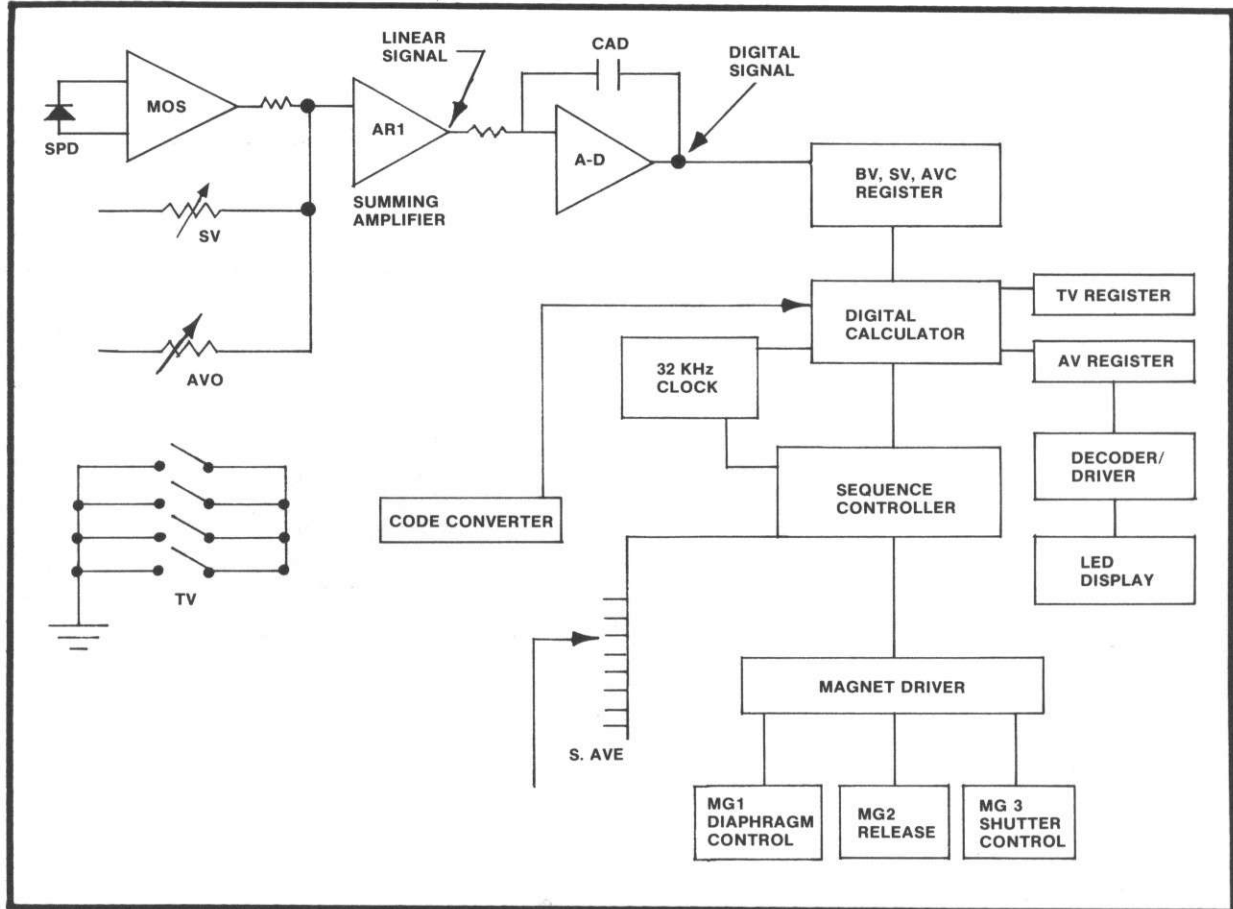

Figure 22
The block diagram, Fig. 22, shows the basic operation. A MOS amplifier serves as a log compressor, converting the SPD current to a voltage. The linear outputs of the MOS (BV), the film-speed resistor (SV), and the maximum-aperture resistor (AVO) are added and converted to a digital signal.